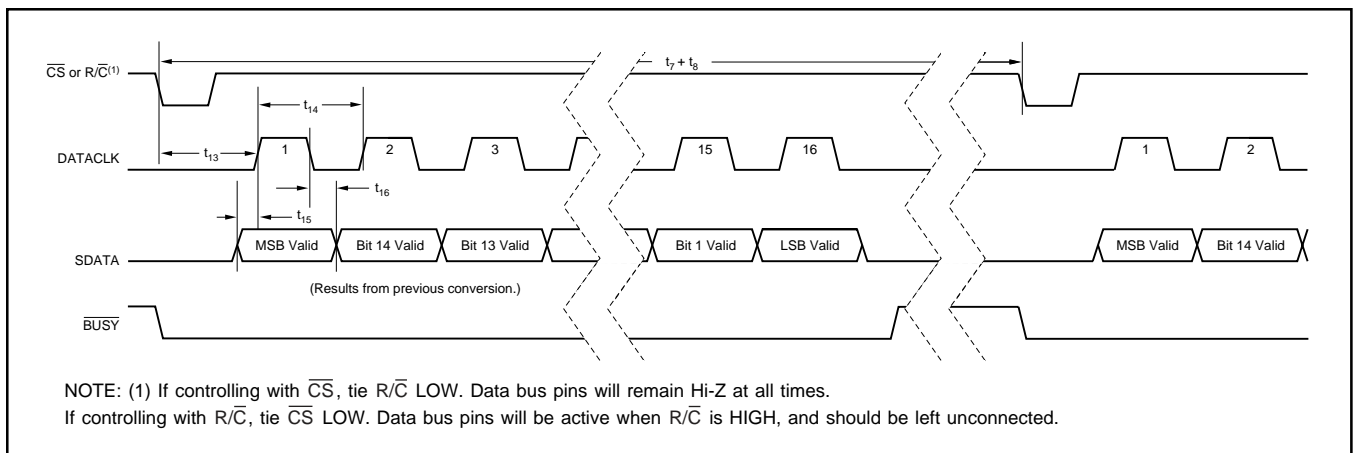

FIGURE 4. Serial Data Timing Using Internal Data Clock (TAG tied LOW).
NOTE: (1) See Figures 4, 5, and 6 for constraints on data valid from conversion 'n - 1'.
To use the internal data clock, tie EXT/INT (pin 8) LOW. The combination of R/C (pin 22) and C_S (pin 23) LOW will initiate conversion 'n' and activate the internal data clock (typically 900kHz clock rate). The ADS7807 will output 16 bits of valid data, MSB first, from conversion 'n-1' on SDATA (pin 19), synchronized to 16 clock pulses output on DATACLK (pin 18). The data will be valid on both the rising and falling edges of the internal data clock. The rising edge of BUSY (pin 24) can be used to latch the data. After the 16th clock pulse, DATACLK will remain LOW until the next conversion is initiated, while SDATA will go to whatever logic level was input on TAG (pin 20) during the first clock pulse. Refer to Table V and Figure 4.